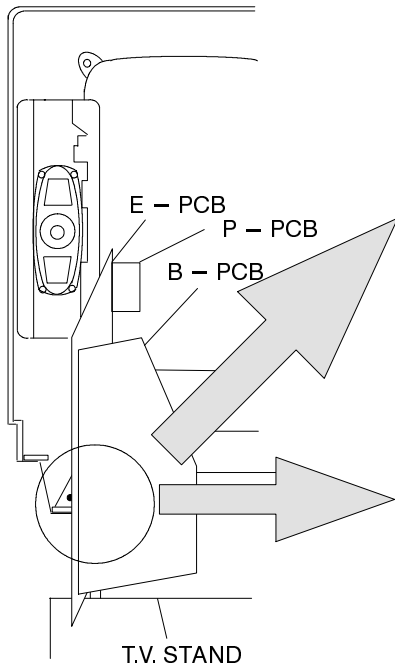

Fig.6.
2. Release the respective wiring clips and rotate the chassis horizontally through 90° anti – clockwise, then lift the front of the chassis as shown in Fig.6.